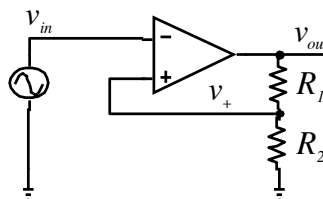

Figure 1.9: Comparator with hysteresis
- PE1. Perform a transient (time domain) simulation of the 'Comparator with Hysteresis' circuit in Figure 1.9. using values from step E5 in the experiment section. Run the simulation for 20ms. For the input signal, use a 0.2 kHz triangular wave of 20 Vp-p, it should be symmetrical, same slope for rising and falling edges, with no offset (i.e. the average of the triangle wave is 0).
Now consider the circuit in Figure 1.9. To illustrate the functionality, consider an input V_{in} of -15 V , and assume that the output v_{out} is saturated at $V_{omax+} = 15\text{ V}$. Then, with $R_1 = R_2 = 100\text{ k}\Omega$, we have $v_+ = 7.5\text{ V}$ because of the voltage divider. Thus, for v_{out} to switch to $V_{omax-} = -15\text{ V}$, v_{in} has to increase over $v_+ = 7.5\text{ V}$. Assume that v_{in} has gone over 7.5 V and is now at 8 V . Then, v_{out} will switch to -15 V and v_+ will now be -7.5 V . Thus, for v_{out} to switch back to V_{omax+} , v_{in} now has to decrease below $v_+ = -7.5\text{ V}$. This is how the switching threshold changes depending on whether v_{in} increases or decreases.